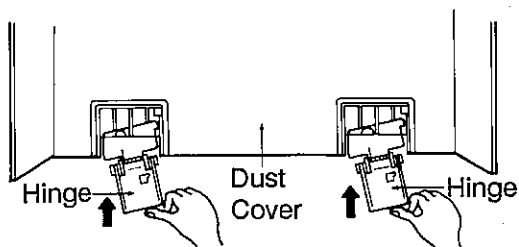

Fig. 18
7. Attach the hinges into the notches of the dust cover (Fig. 18).